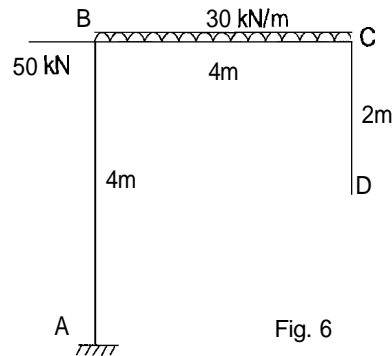

Fig. 6
6. Analyse the portal frame ABCD as shown in fig. 6 by flexibility method. EI constant throughout. **20**